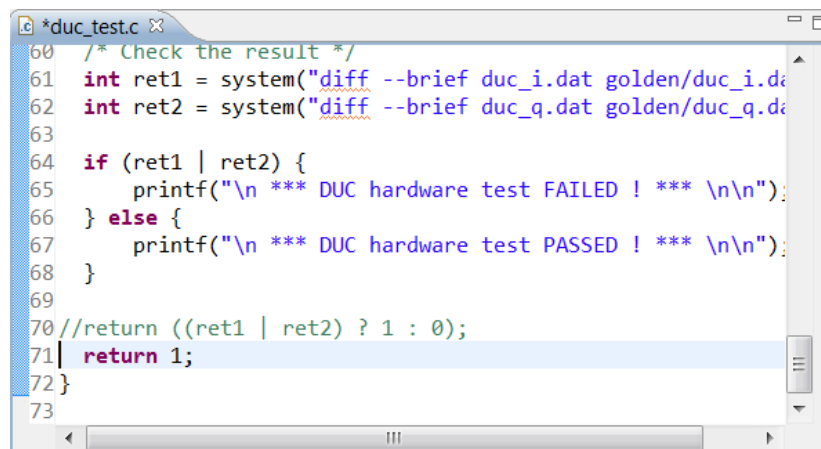

Figure 171: Modified RTL Test bench
3. Scroll to the end of the file to see the code shown in Figure 171.
4. Edit the return statement to match Figure 171 and ensure the test bench always returns the value 1.